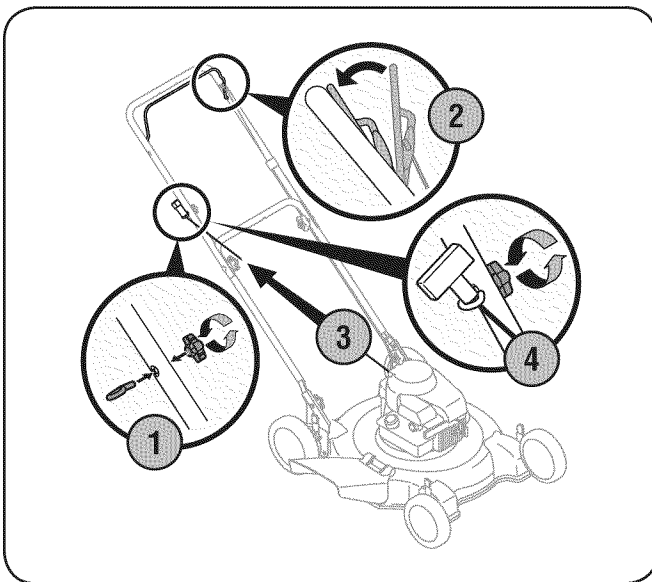

Figure 3-9
1. Loosely attach the rope guide to the outside of the upper handle and thread the wing nut only a few turns. See Fig. 3-9. Do not tighten.
4. Slip the rope through the rope guide as shown in Fig. 3-9. Tighten the wing nut to secure the rope guide.